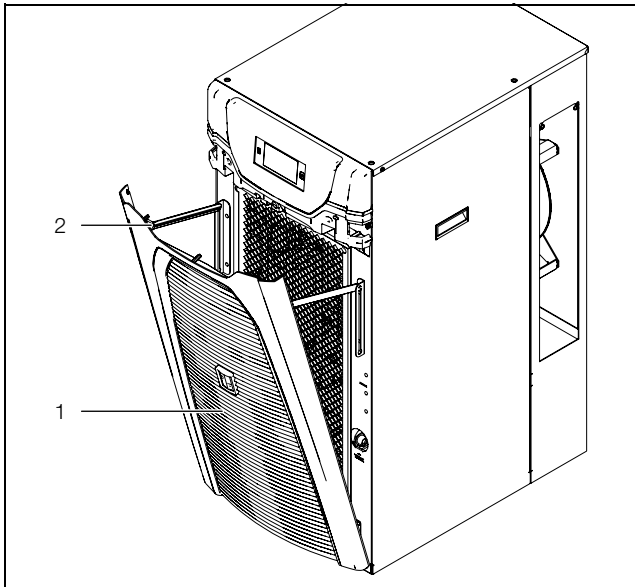

Fig. 35: Flip open the louvred grille 3334400
- Open the louvred grille below the infill panel by flipping forwards (fig. 35, item 1).